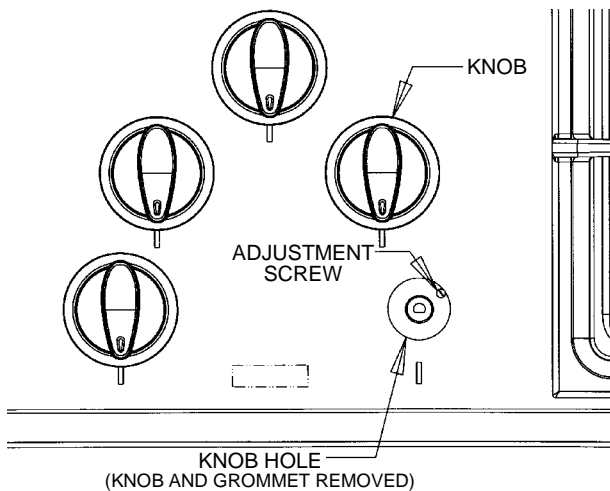

FIGURE 12
C. LOW FLAME ADJUSTMENT (See figure 12)
3. Locate the valve adjustment screw. See figure 12.
4. Locate the valve adjustment screw. See figure 12.